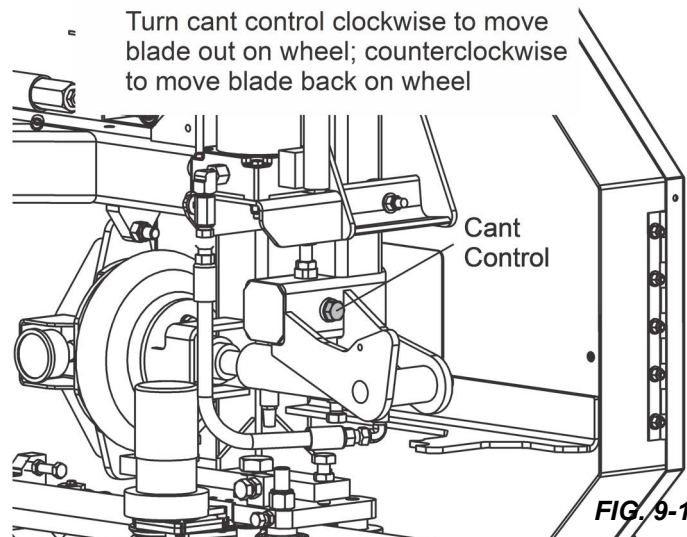

FIG. 9-19
16. Use the cant control adjustment to adjust the idle-side blade wheel. See FIG. 9-19.